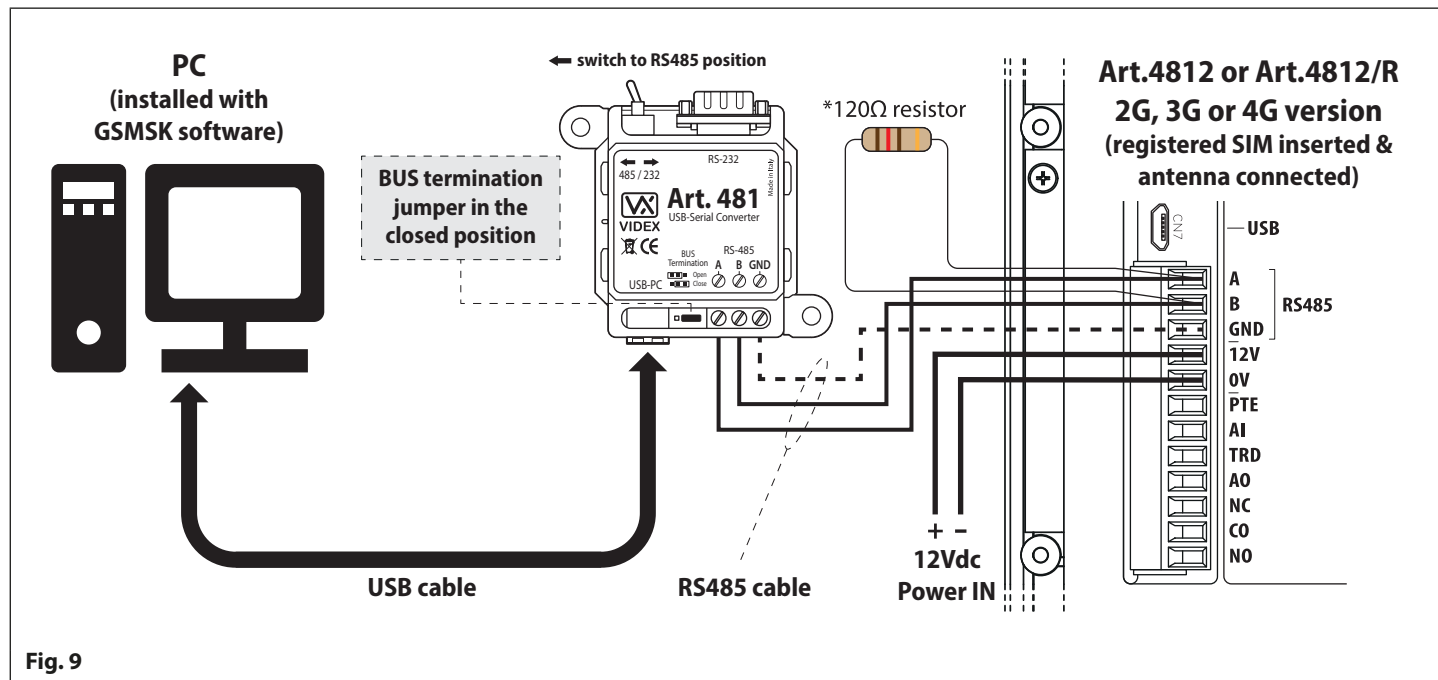

Fig. 9
The **digital GSM** intercom can also be connected using an RS485 bus connection via an RS485 to USB converter (**Art.481**) as shown in **Fig.9**. This method of connection, like option 1, can be used for programming and setup of the **digital GSM**, but can also be used in instances where a permanent connection to a PC is required for monitoring purposes and downloading event logs.
*For end of line termination a 120Ω resistor must be fitted across the RS485 terminals A and B, as shown in **Fig.9** above, but only if the **digital GSM** (2G, 3G or 4G) is the last device in line and over a great distance (500m max.). Over shorter distances the 120Ω resistor is not required and the bus termination jumper on the **Art.481** can be set to the **OPEN** position.